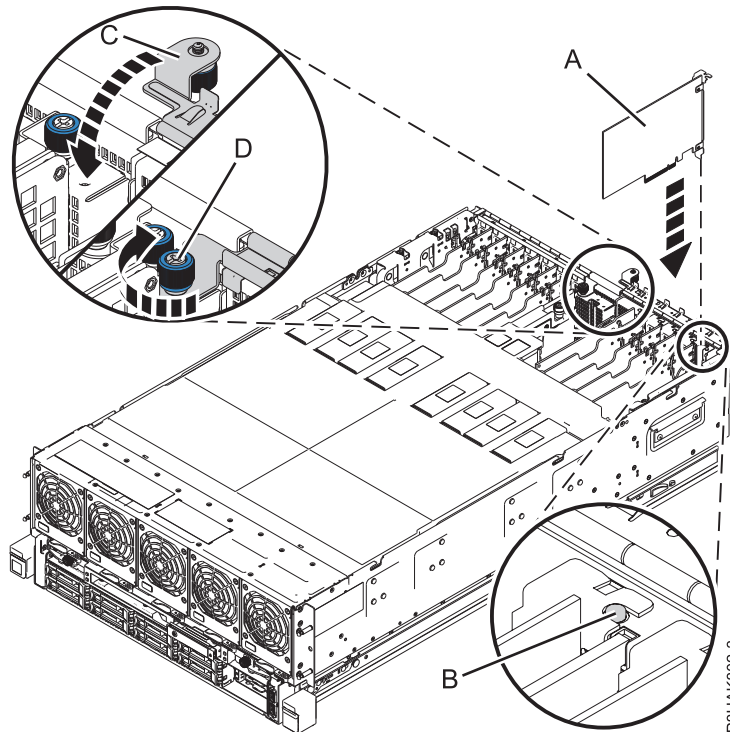

Figure 12. Installing or replacing a PCIe adapter in the 8408-44E or 8408-E8E system
6. Carefully grasp the adapter by its top edge or tailstock, and align the adapter with the slot and its connector on the system backplane (A), as shown in Figure 12 on page 18.
9. Ensure that the tailstock notch engages with the pin on the system's chassis. See (B) in Figure 12 on page 18.
10. Close the I/O retention bracket (C) by rotating it down and then tighten the captive thumbscrew (D) until it is secured to the system's chassis. See Figure 12.